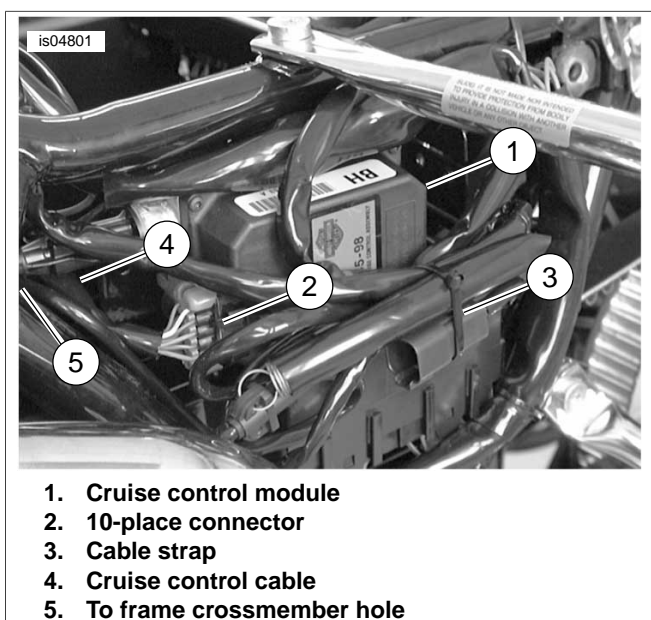

Figure 3. Mount Cruise Control Module
6. See Figure 3. Remove the fuse block cover panel by pulling straight out from mounts and temporarily position the cover away from the mounting area. Align the cruise control assembly (1) studs and grommets with mounting holes in battery box and push module firmly into position. Make sure grommets enter mounting holes in battery box.